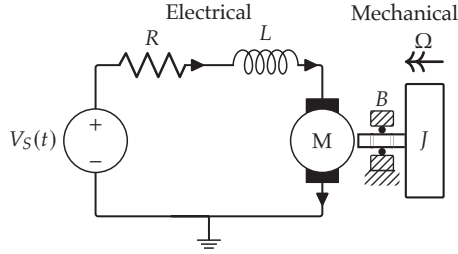

Figure 4.6. An electromechanical schematic of a DC motor.
Consider the electromechanical schematic of a direct current (DC) motor shown in figure 4.6. A voltage source  $V_S(t)$  provides power, the armature winding loses some energy to heat through a resistance  $R$  and stores some energy in a magnetic field due to its inductance  $L$ , which arises from its coiled structure. An electromechanical interaction through the magnetic field, shown as  $M$ , has torque constant  $K_M$  and induces a torque on the motor shaft, which is supported by bearings that lose some energy to heat via a damping coefficient  $B$ . The rotor's mass has rotational moment of inertia  $J$ , which stores kinetic energy. We denote the voltage across an element with  $v$ , the current through an element with  $i$ , the angular velocity across an element with  $\Omega$ , and the torque through an element with  $T$ .